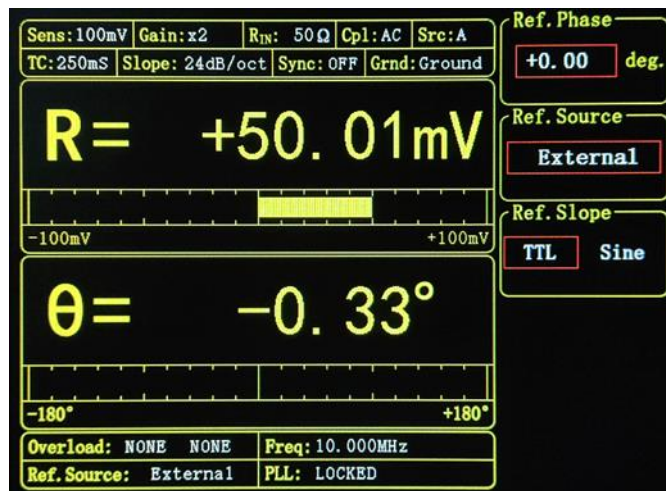
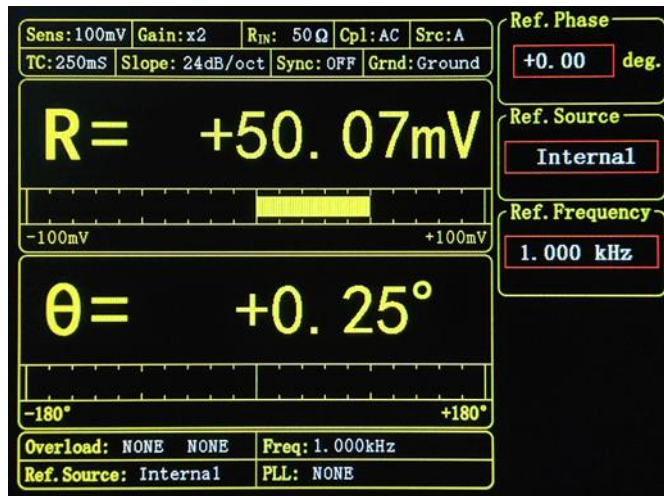
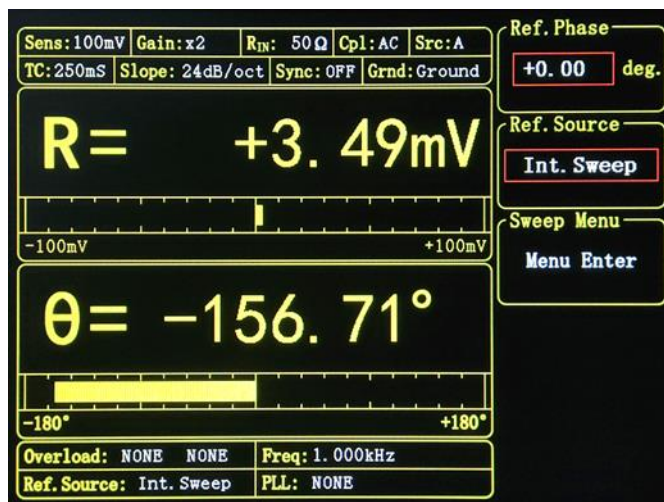

Fig.16 [REF/PHASE] Submenu-<External>.
Fig.17 [REF/PHASE] Submenu-<Internal>
Fig.18 [REF/PHASE] Submenu-<Internal Sweep>
Press [REF/PHASE] and enter its submenu. There are 5 function settings in the submenu, including <Ref.phase>, <Ref.source>, <Ref.slope>, <Ref.frequency>, and <Sweep>. When choose different <Ref.source>, there will be different submenus as shown in Fig.16, Fig.17 and Fig.18.
- <External> The external reference signal. OE2031 will be phase-locked to the reference signal of the REF-IN BNC input. As is shown in Fig.16, <Ref.slope> can be set.
- <Internal> The internal reference signal. In this mode, the reference signal is from the internal oscillator. The [REF IN] signal is useless. As is shown in Fig.17, <Ref.frequency> can be set.
- <Internal Sweep> The internal reference signal sweep. In this mode, the signal generator will conduct internal sweep according to the parameters set by users. As is shown in Fig.18, <Sweep> can be set.